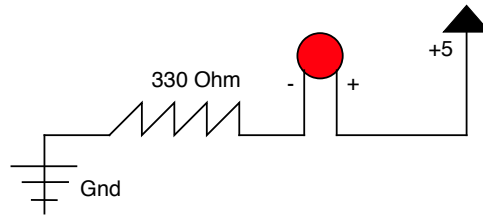

Figure 1: Circuit 1: Led + Resistor
5. A *circuit* is a complete path from +5V to GND with intervening devices and gates. Our first circuit, shown in Figure 1, will light an LED; we will create two of these circuits. Get two LEDs and two 330 Ohm resistors. We will wire each circuit using the diagram shown in Figure 1. Note that an LED is direction dependent. The "long" side must be connected to the +5 and the short side to the GND side. Since current only flows in one direction through an LED, the circuit will not operate if the LED is backwards. Wire both circuits according to the diagram; you should see both LEDs light.